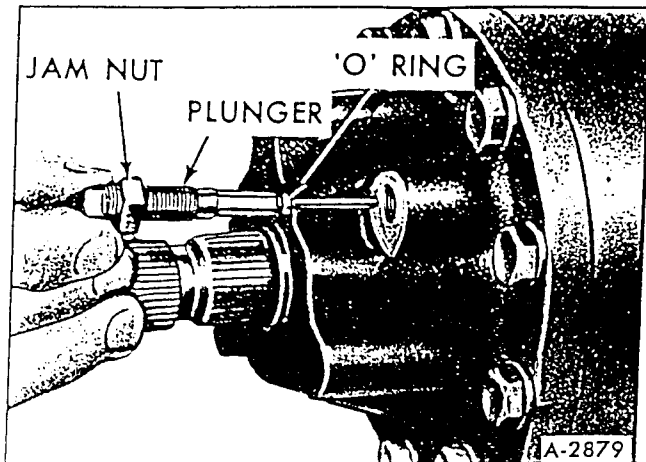

Figure 10 – Removing Relief Valve Plunger (Typical)
3. Loosen jam nut on relief valve plunger and remove plunger from both ends of power steering gear (fig. 10).